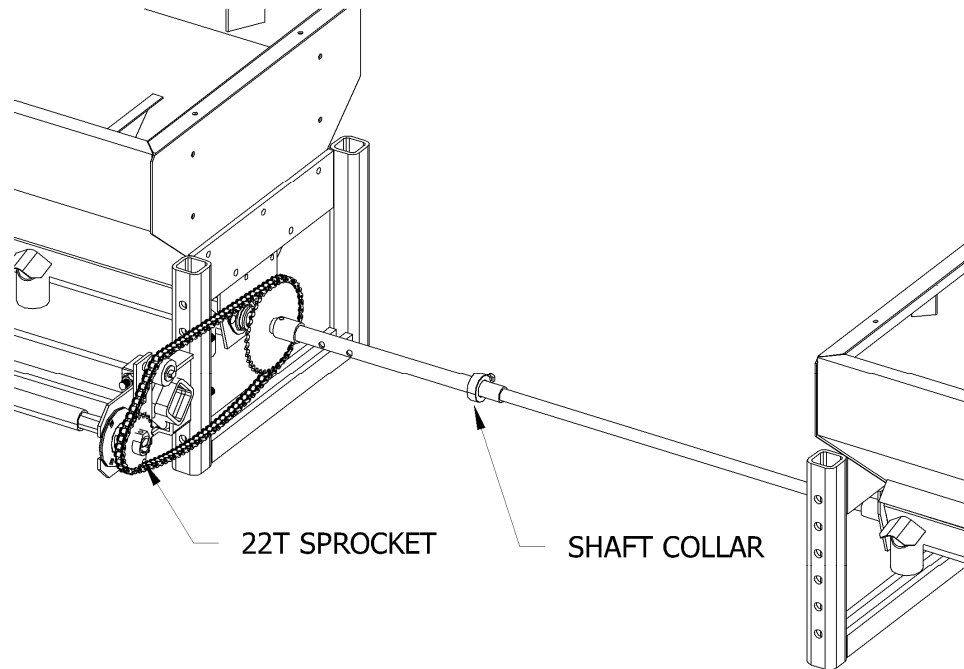

Figure 5
5. INSTALLING BOX CONNECTOR (Figure 5)
6. INSTALL SLOW MOVING VEHICLE SIGN BRACKET AS SHOWN IN FIGURE 5.